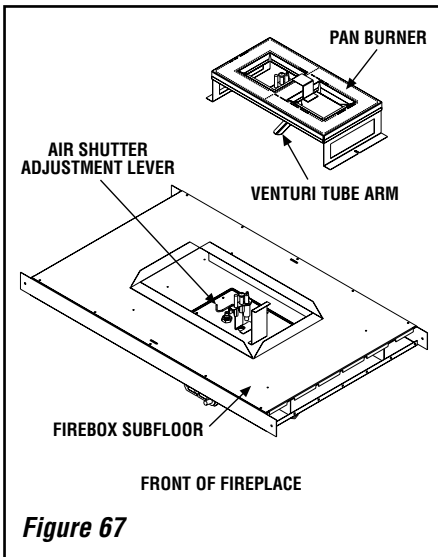

Figure 67
Step 3. Referring to **Figure 67**, remove the burner.
Step 8. (Refer to **Figure 67**)
Ensure that the arm of the venturi of the burner is hooked onto the air shutter adjustment lever (refer to *Figure 67 on page 41*). The primary air opening can be adjusted by rotating the adjustment lever from beneath the firebox floor. Refer to *Figure 65 on page 36* for the recommended minimum primary air opening setting.